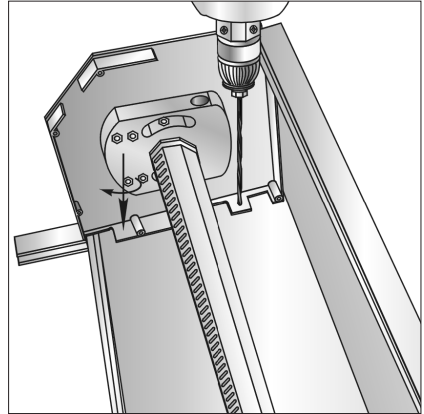

Fig. 8
- for overlay mounting – drill two holes in the rear flanged edge of each cover (Fig. 8);